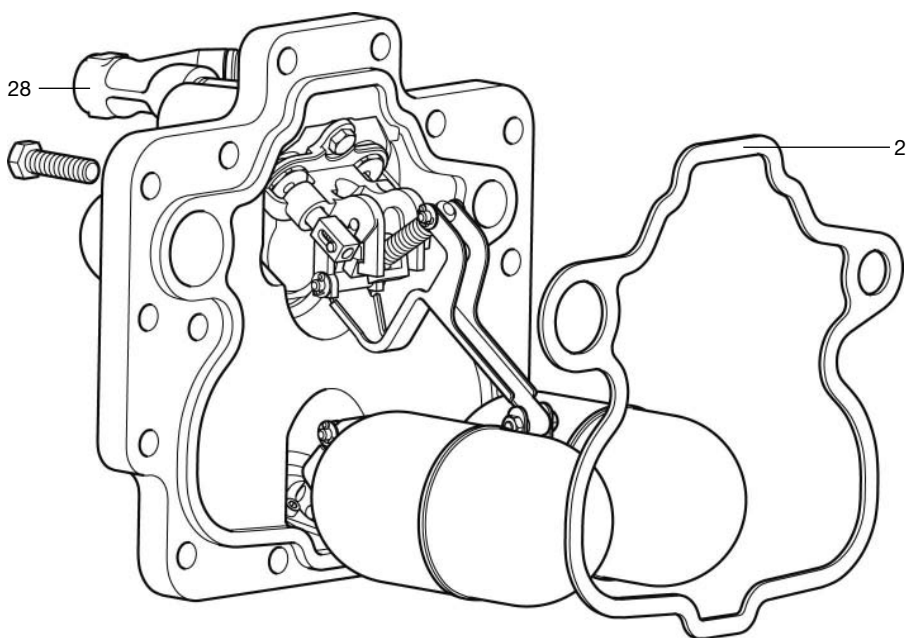

Fig. 18 APT14 shown
3. Carefully fit a new gasket (item 2) into the existing body (See Figure 18).
6. Carefully reconnect the motive steam supply and the exhaust lines to the connections marked (S) and (E). The APT14, APT14HC or APT14SHC is now ready to recommission.
7. Make sure that the Spirax Sarco motive supply strainer (with 100 mesh screen) is reinstated to the motive supply connection (item 28, Figure 18).